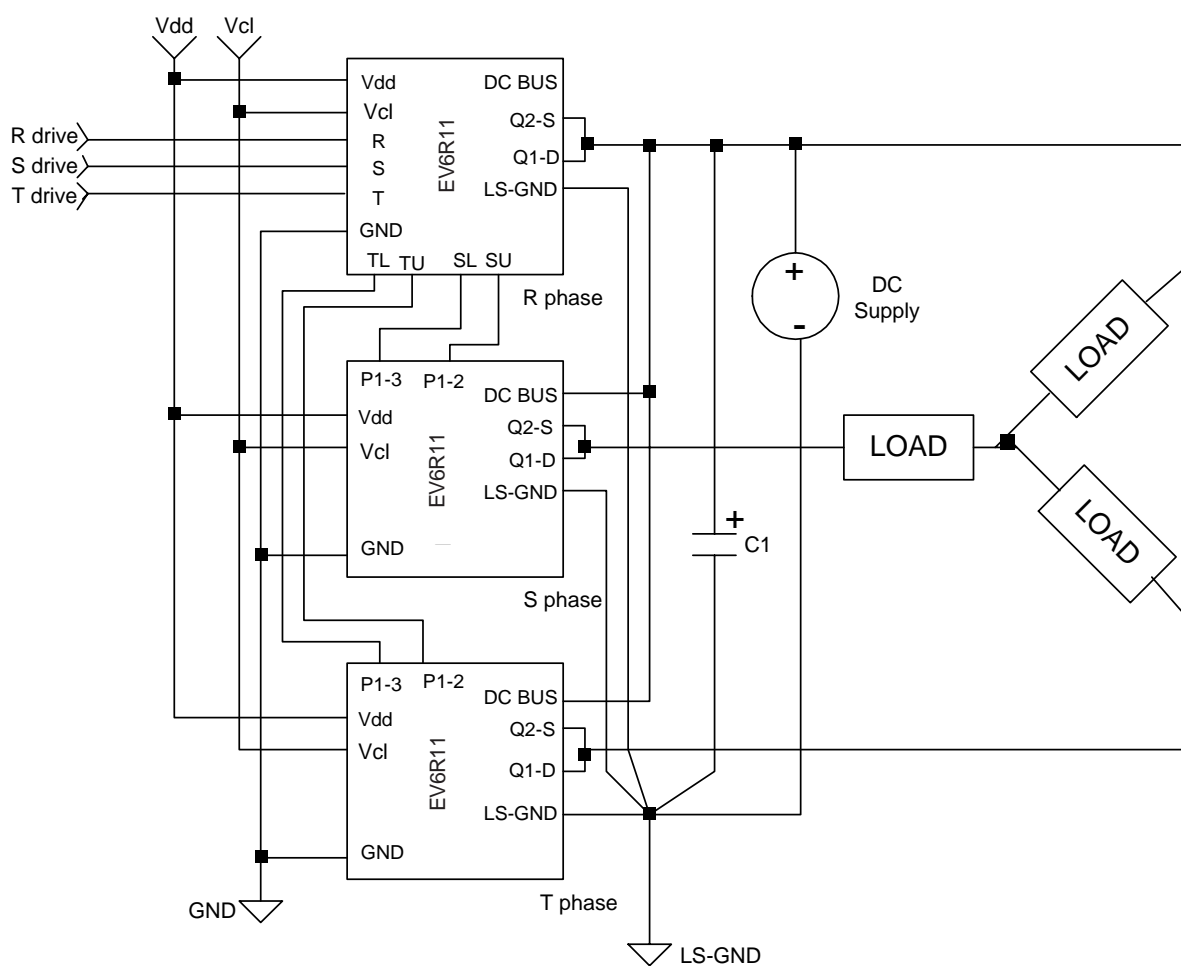

Figure 5: EV6R11 Three Phase Configuration
to form a three phase drive system, such as that shown in Figure 5.
f) Figure 5 shows a three phase power system implementation with a load configured in a Y (star). It could also be configured in a DELTA configuration. Please note the grounding scheme. Cut the connection between "ground plane 2" and "ground plane 4" on the components side of the PCB and solder a 10 Ohm resistor between these ground planes. The GND of each board is terminated to a single ground point.